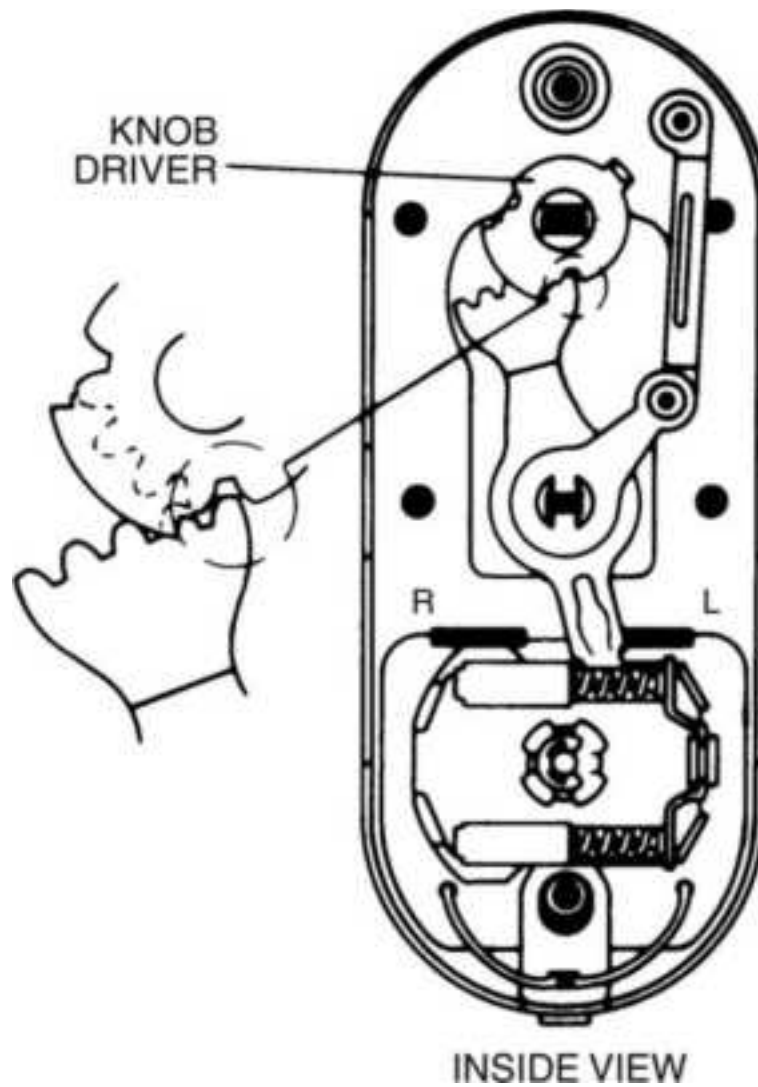

**Figure 13.84** Changing hand, Step 15.
15. Install the knob driver (Fig. 13.84 ).